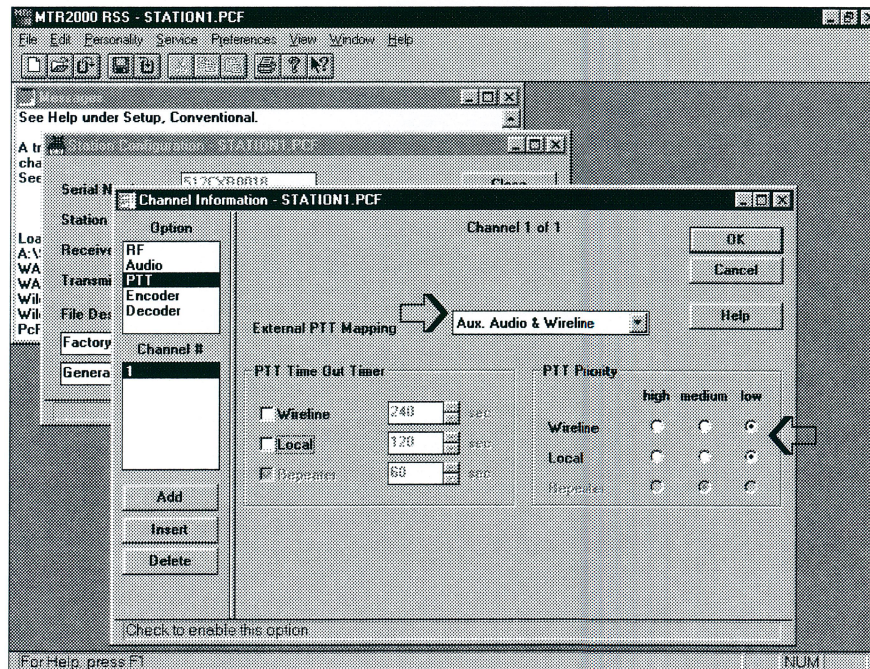

Fig. 6
10. Continue on by clicking **PTT**, in the **Option** window. A window as shown in Fig. 6 will appear. Make sure that you correctly select the two options as indicated by the arrows. Failure to do so can cause loss of transmit data.